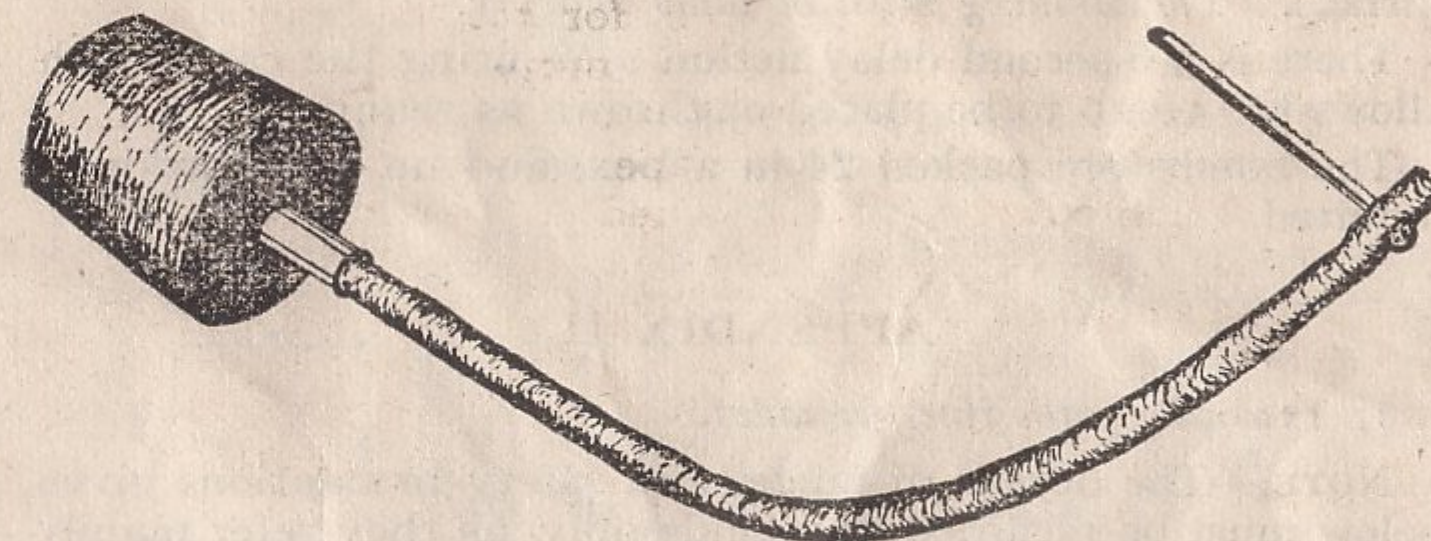

FIG. 20
- ii. Next cut off the required amount of fuze for the set. 13 ins. (1 in. allowed for lighting) will give about 30 seconds in which to get to cover. See that the end to be inserted in the detonator is cut clean and square. About 1 in. from the other end bore a hole through the fuze with the point of a sharp knife. Into this hole draw a match until the head of the match is nearly flush with the fuze (see Fig. 20).